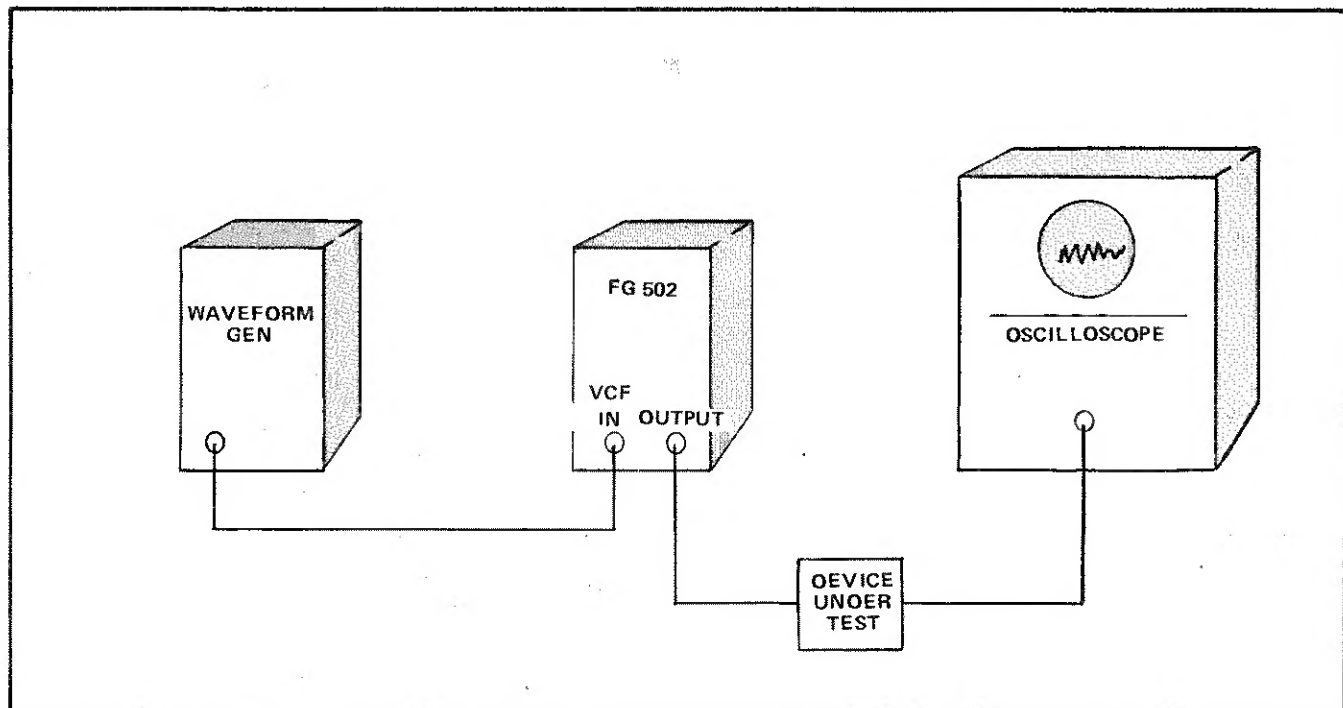

Fig. 1-6. Analyzing circuit or system response.
1. Connect the equipment as shown in Fig. 1-6.